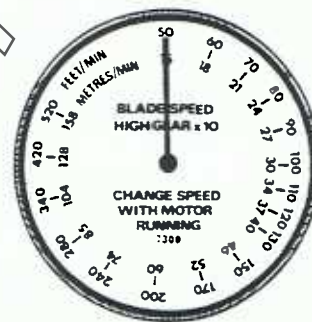

Fig.2
3. Hold indicator dial body in one hand ,face vertical, and rotate until the red needle is at 50.(see Fig.2).